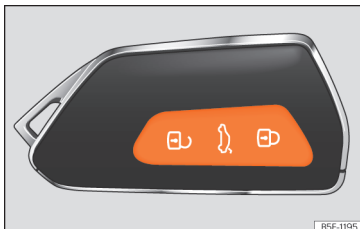

Fig. 73 Remote control key: keys.
- Lock: press the  **>>> Fig. 73** button.